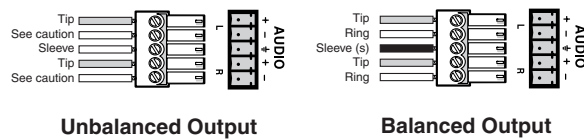

Figure 2-7 — Captive screw connector wiring for audio output
- ⑤ **Audio output connectors** — Connect audio devices, such as an audio amplifier or powered speakers to these two 3.5 mm, 5-pole captive screw connectors. The connectors output the selected unamplified, line level audio. See figure 2-7 to properly wire an output connector.